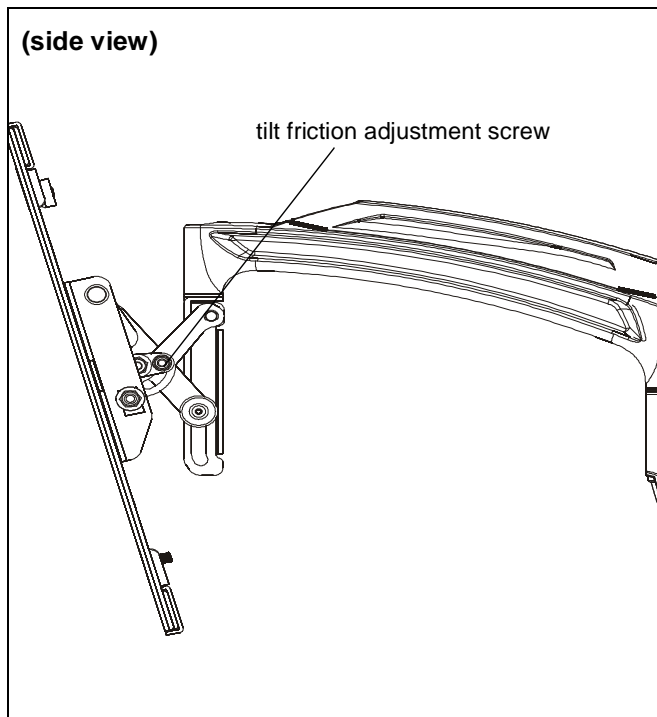

Figure 26
1. Tilt display forward enough to expose screws on the side of tilting mechanism. (See Figure 26)
2. Adjust tilt friction adjustment screw to increase or decrease tilt friction. (See Figure 26)